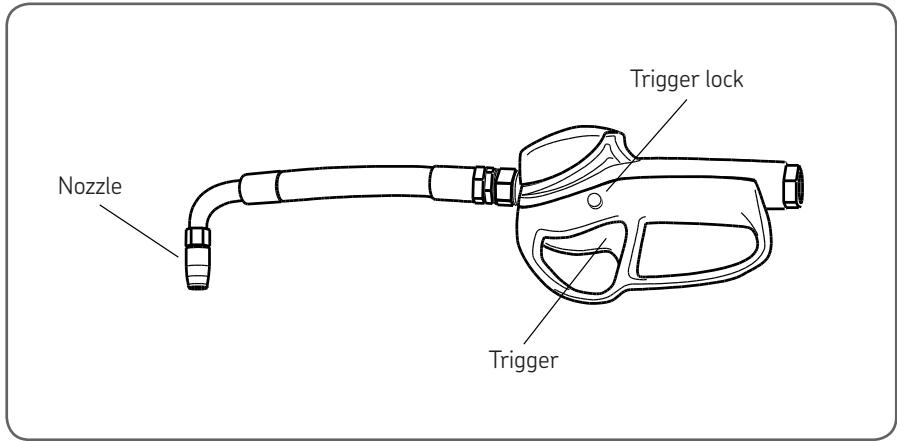

Fig 35 Dispensing reel faucet
5. Hold the trigger in position and press the red button on the side of the gun to lock the trigger into the “dispense” position. See figure 35.